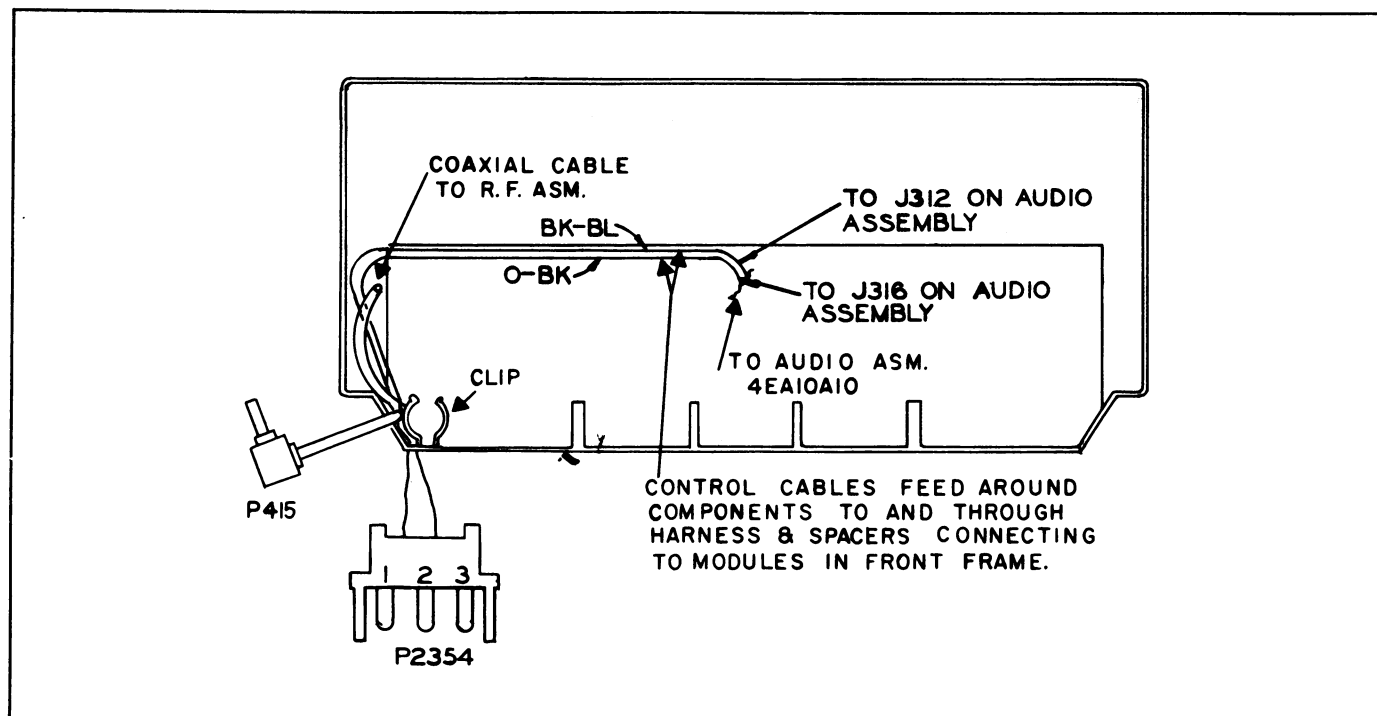

Figure 3 - Cable Routing (Back View of Control Unit)
- a. Install power cable (which terminates with P2354) as shown in Figure 3.
- b. The cables should be routed as shown in Figure 3 about the control unit.